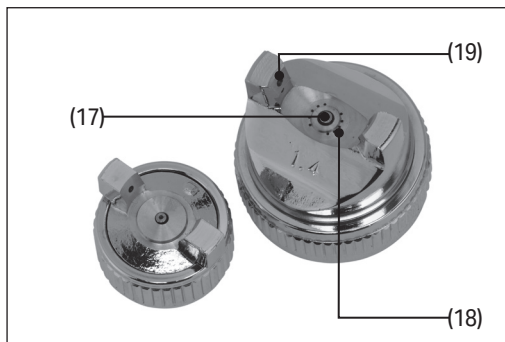

Fig. 11
The air cap (1) has three types of opening that affect the pattern of the fluid spray (Fig. 11):
- A hole for the nozzle head from which the fluid is dispersed (17).
- Atomising air holes (18) that break the fluid into a fine spray (1.4mm air cap only).
- Air horn holes (19) that shape the spray pattern as required.